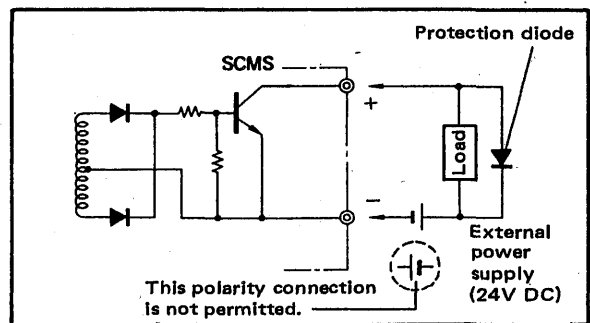

Figure 3-1-5. Connection When Status Output Is Used.
- (5) FAIL and status outputs use transistor contacts. Pay attention to the following when they are connected to external devices. (See Figs. 3-1-5 and 3-1-6.)
- (6) For communication wiring, use special shielded SCCD twisted-pair cables for communications.
- (7) Short the current output terminals when they are not in use.